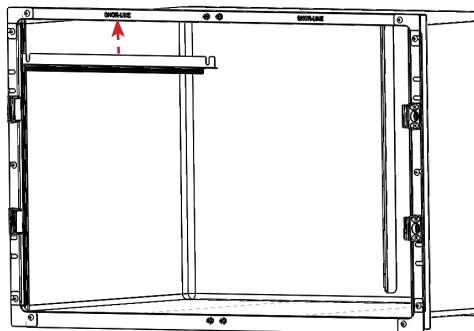

FIGURE 2.17 - Left Head Seal Installation
**STEP 4:** Align the slots on the head seal (top) with the hardware screws. Slide the head seal under the trim plates. Secure the head seal by tightening the top trim plate screws. Do NOT fully tighten. See FIGURE 2.17